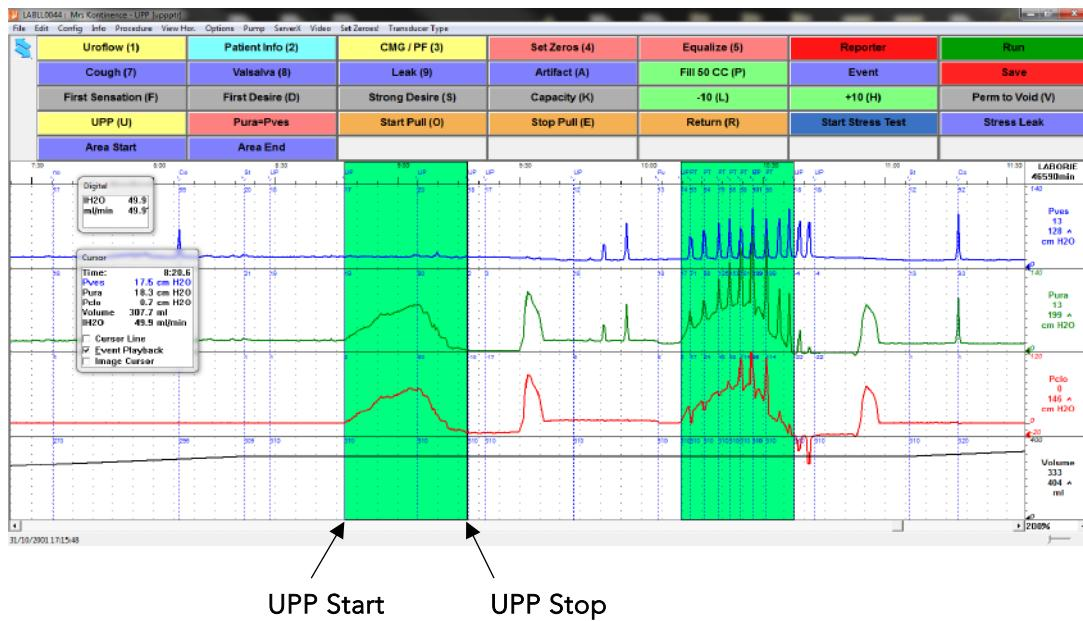

Figure 151: Auto Event Background Color
5. Once the color is selected, click **Close** to exit Event Properties and then click **OK** to close the Event Display Options window. During the next test the graph will display a colored background where the events occur (Figure 151).